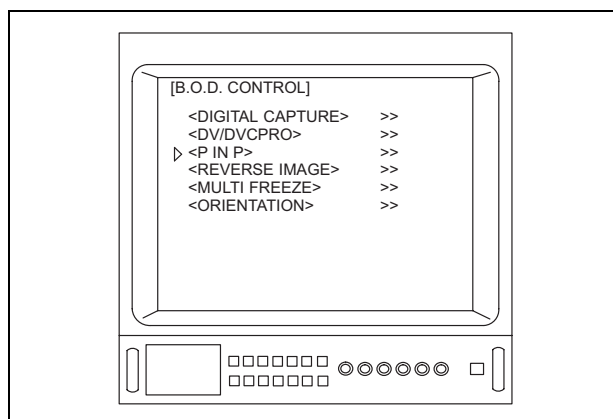

Figure 5.113
4. Depress the menu switches " or ", or the " key on the keyboard to move the arrow " to "P IN P" (see Figure 5.113).
Depending upon B.O.D.s which are installed in the OTV-S7V, the menu shown in Figure 5.113 may appear different from that displayed on the video monitor.
4. Depress the menu switches “” or “”, or the “” key on the keyboard to move the arrow “” to “P IN P” (see Figure 5.113).
5. Depress the menu switches “” or “”, or the “” key on the keyboard to move the arrow “” to “P IN P” (see Figure 5.113).